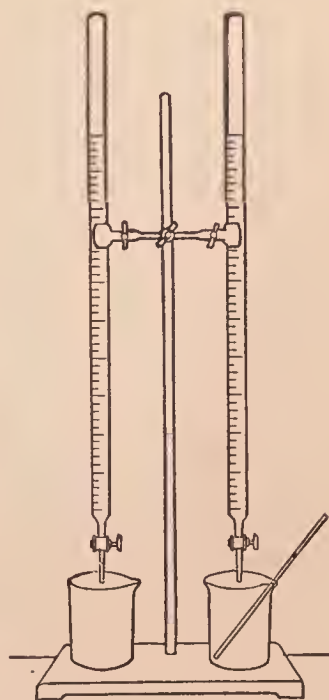
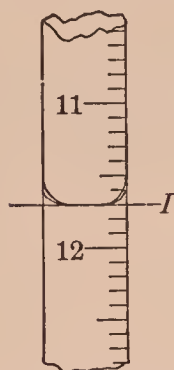

FIG. 42. — Burettes for accurate neutralization
FIG. 43. — Meniscus
**APPARATUS.** — Burettes, beakers, and glass rod as in Fig. 42, waste beaker.
— one with the acid solution and one with the base solution (Fig. 42). Label each burette. Be sure the tip of the burette is free from air bubbles. (To remove air bubbles, open the stopcock slightly, and shake the burette up and down quickly.) Place the waste beaker under each burette in turn and allow the solution to run out slowly until the bottom of the meniscus rests on the 0 line when the eye is on a level with the same line. (See Fig. 43.) Set the waste beaker aside.